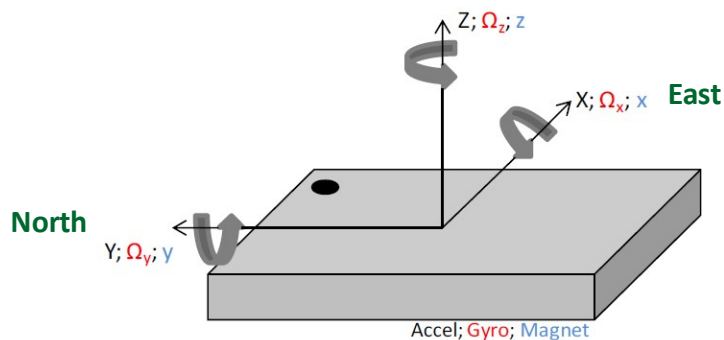

Figure 1 BNO055 coordinate definition
The user can switch between Windows or the Android orientation format. By default however, the sensor axes orientation of the sensor is of Android format as shown in Figure 1. The Android rotation vector definition can be found at http://developer.android.com/guide/topics/sensors/sensors_motion.html
- Heading: rotation around the Z axis ($0^\circ \leq \text{heading} < 360^\circ$). $0^\circ = \text{North}$, $90^\circ = \text{East}$, $180^\circ = \text{South}$, $270^\circ = \text{West}$. The heading value increases when you rotate around the Z axis clockwise from top view of Figure 1. Pitch: rotation around the X axis ($-180^\circ \leq \text{pitch} \leq 180^\circ$) with positive values increasing when the Z axis moves towards the Y axis.